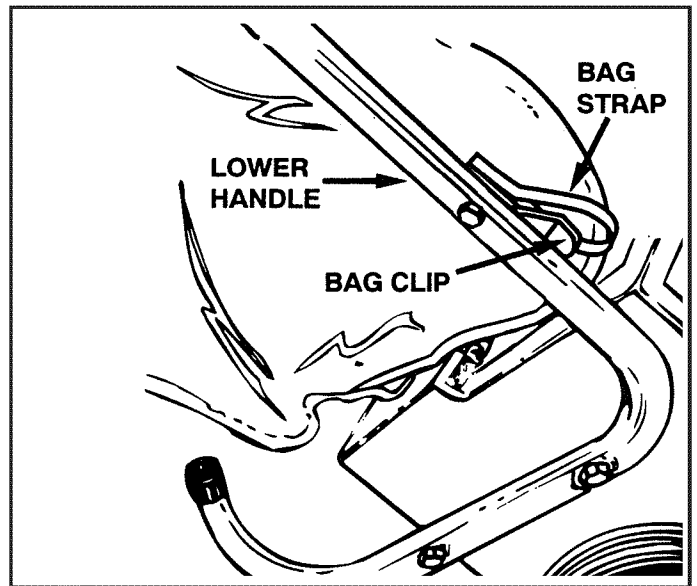

FIGURE 9
11. Hook the elastic straps on the bag flaps under the bag rod clips on the lower handle tubes as shown in figure 9.